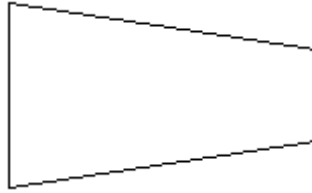

Figure 2:
6. Calculate the temperature distribution and the heat dissipating capacity of a fin shown in figure 2. The thermal conductivity of the material is 200W/m k. The surface heat transfer coefficient is 0.5 W/m2k. The ambient temperature is 30°C. The thickness of the fin is 1 cm the width at the base is 2 cm and at the tip is 1 cm and varies uniformly along the length, what changes takes place in the heat dissipation capacity of the fin. [16]